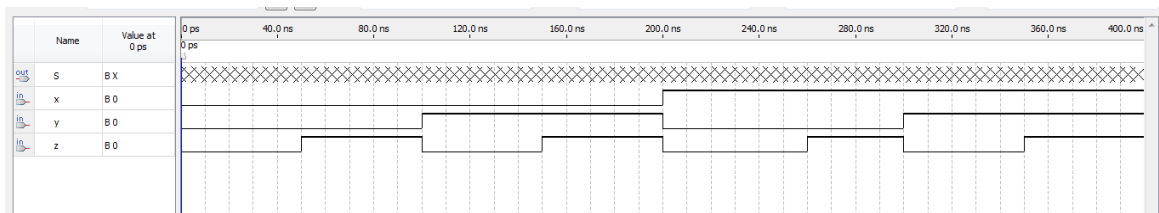

Fig. 14: Desired input waveforms
- 4) Now, input waveforms are needed to be arranged. To make it easy to draw waveforms, waveform editor displays vertical guidelines and provides a drawing feature that snaps on these lines which can be invoked clicking **Edit>Snap to Grid** (a tick sign is needed to be seen). Click on waveform for x node and choose the time interval between 200 and 400 ns clicking on mouse when the pointer is near 200 ns and drag it until 400 ns. Then choose **Edit>Value>Force High**. Apply similar procedure to y and z to obtain the waveforms similar to Fig. 14. Then save the file.